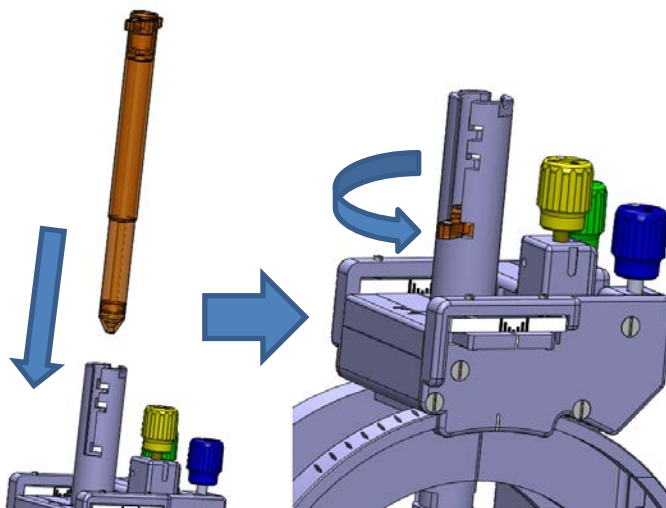

Figure 14: Inserting a Device Guide
5. Insert the desired Device Guide into the TC Support so that the tabs on the Device Guide Fit into the long vertical slot on the TC Support. Then twist the Device Guide so the tabs engage the slots to lock it in position. **See Figure 14.**